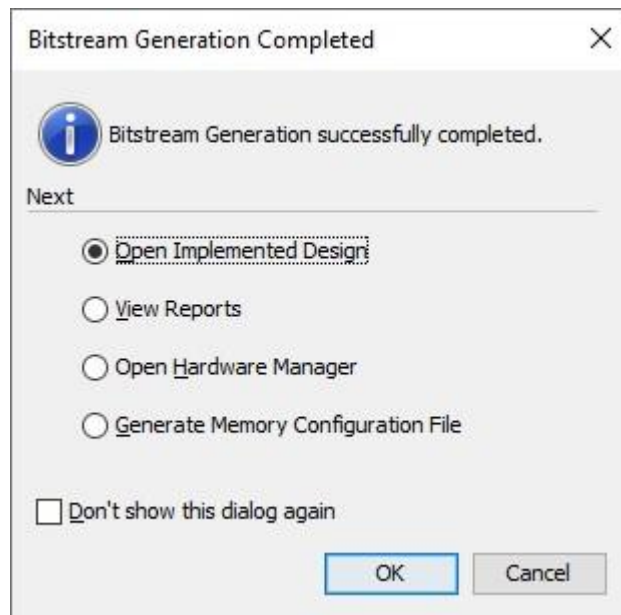

Figure 21: Bitstream generation completed.
2. After the design implementation, the Bitstream Generation Completed window appears (Figure 21). Select **Open Implemented Design** and then click **OK**. You may get a warning that the implementation is out of date— click **Yes**.